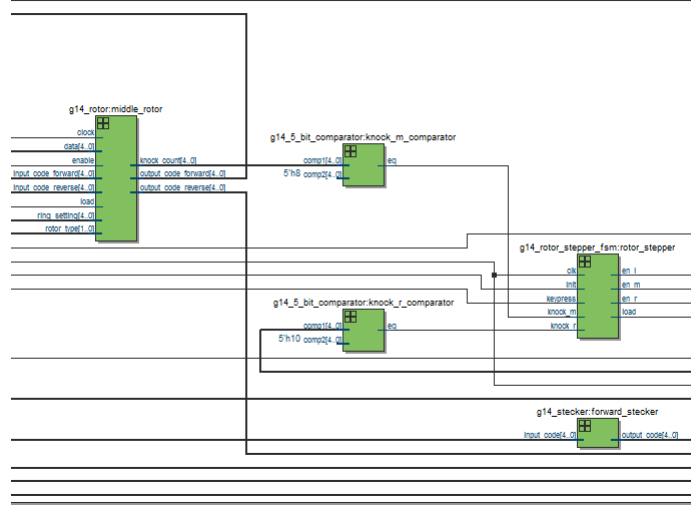

Figure 7: A closer look at the components making up the middle of the block diagram in figure 5.
3. This wire is connected to *input_code_forward* of the middle_rotor, which can be seen in figure 7. Again, let's simply consider that this input is scrambled and the output is set at *output_code_forward*.